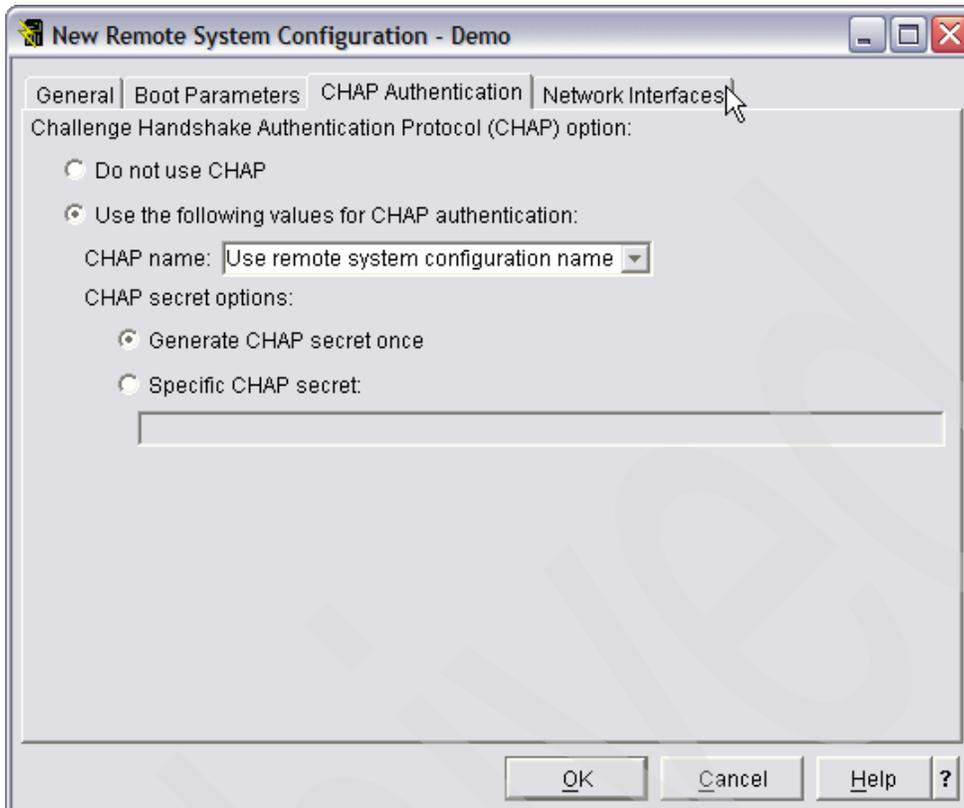

Figure 6-41 CHAP Authentication tab New Remote System Configuration
- e. On the CHAP Authentication tab (Figure 6-41 on page 188), enter and select the following: